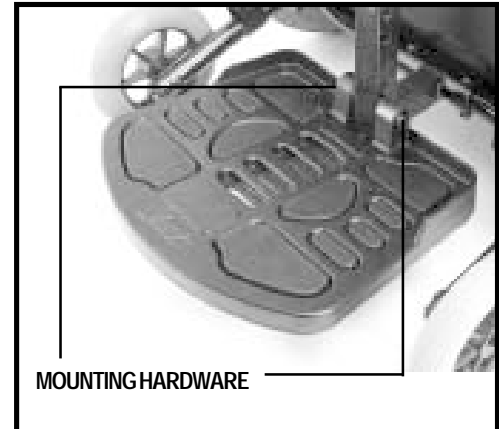

Figure 18. Foot Platform Height Adjustment
1. Remove the mounting hardware from the foot platform bracket. See figure 18.